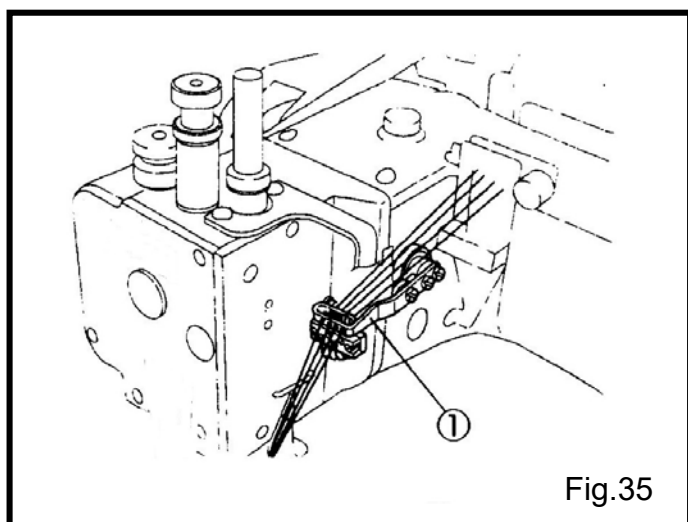

Fig.35
- (1) 抬線架①轉到最低位置。(Fig.35)
- (1) Position the needle thread take-up① at the lowest point. (Fig.35)